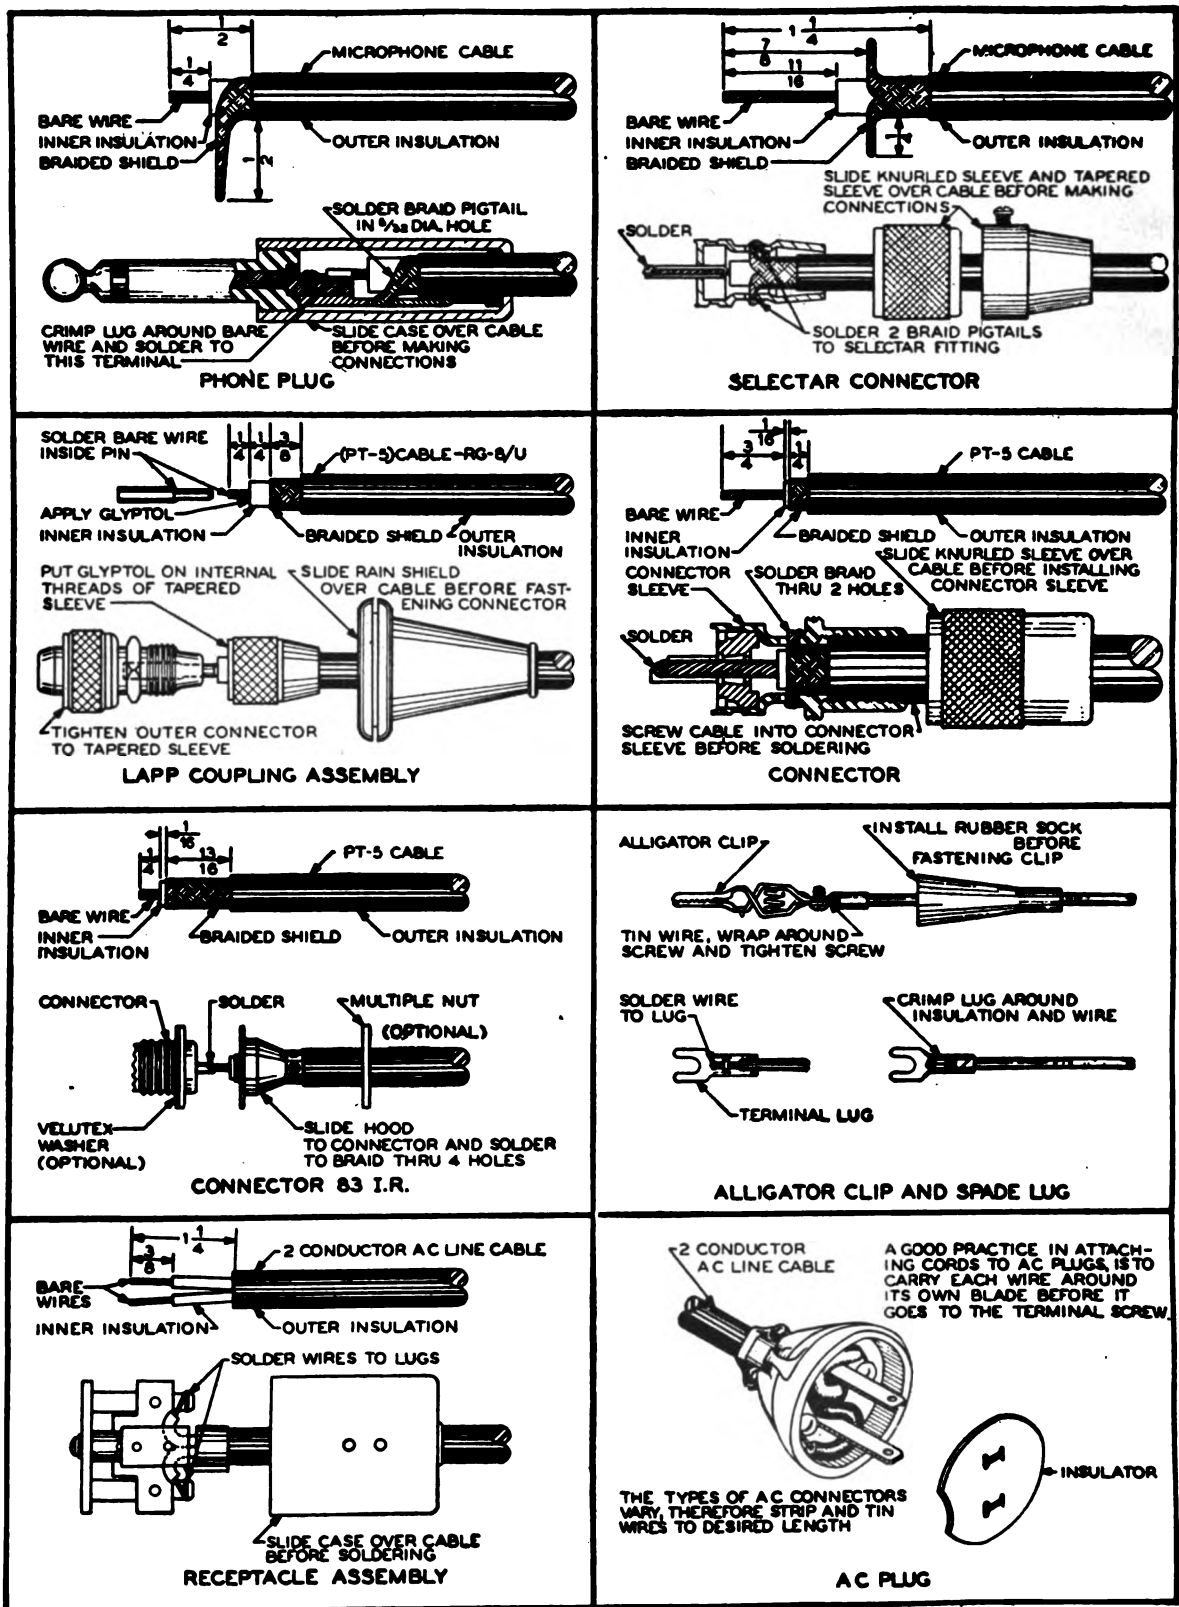

Figure 43. Assembly views of plugs and connectors.
b. REMARKS. While the assembly of cables is not strictly a maintenance operation, sometimes it becomes necessary to reconnect cables to their respective plugs or connectors. The operation requires care and a knowledge of the circuits fed by the wires contained in the cables. If however, the wire is definitely known to belong to a certain pin from which it has been separated, then proceed to solder or reconnect it. Figure 43 shows various assembly views of the different plugs and connectors used in the set.